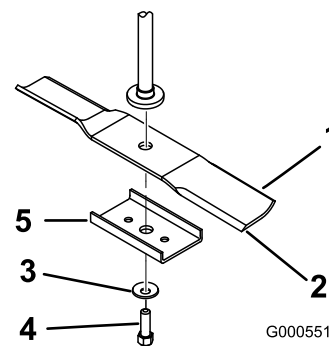

Figure 48
Hold the blade end using a rag or thickly-padded glove. Remove the blade bolt, curved washer, blade stiffener (42 inch models only), and blade from the spindle shaft (Figure 48).
1. Install the blade onto the spindle shaft (Figure 48).
2. Install the blade stiffener (42 inch models only), the curved washer (cupped side toward the blade) and the blade bolt (Figure 48).